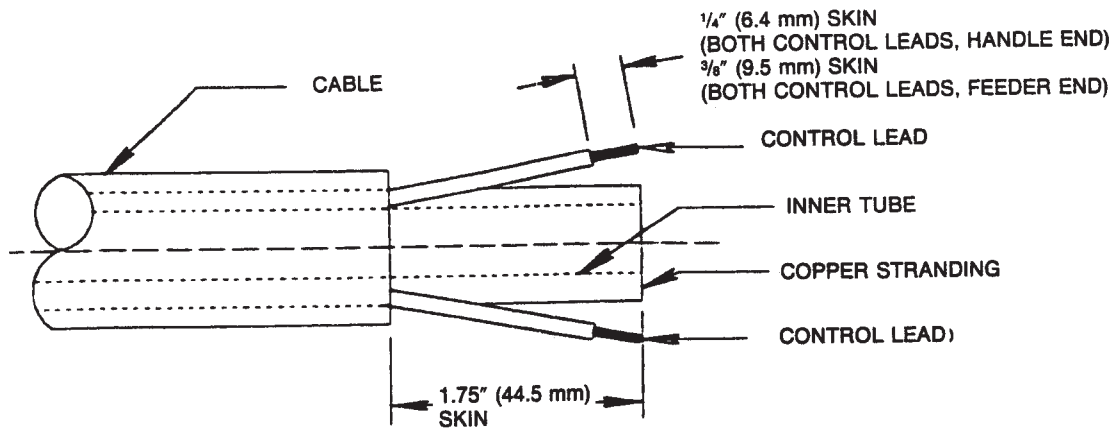

FIGURE 2
- Cut off the damaged section of cable and strip off the outer jacket as shown in Figure 2. Be careful not to cut the insulation on the control wires while stripping jacket. Strip the red and white control leads 1/4 inch (6.4 mm) from the end and crimp a new S19492-2 terminal to each lead.
- g. Cut off the damaged section of cable and strip off the outer jacket as shown in Figure 2. Be careful not to cut the insulation on the control wires while stripping jacket. Strip red and white control leads 3/8" (9.5 mm) from the end.